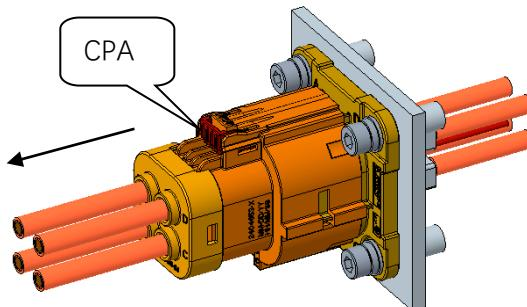

Figure 11
1. Pull the CPA (as below direction) until it stops as shown in Figure 11.
如图 11 所示, (如下方向) 拉动 CPA 直至停止。